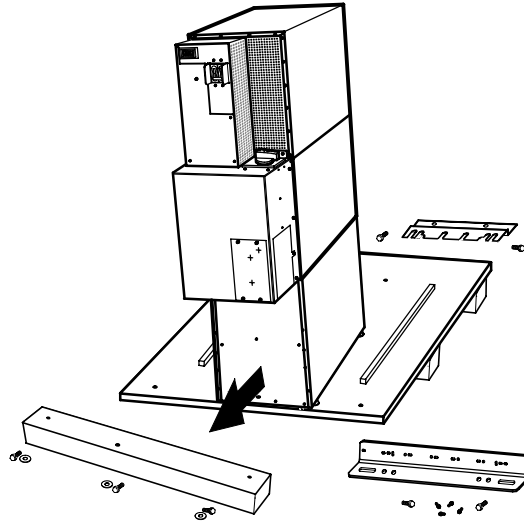

Figure 4. Unloading the Cabinet
5. Slowly roll the cabinet toward the rear of the pallet. Once the pallet tilts, continue rolling the cabinet down the pallet until the cabinet touches the floor (see Figure 4).